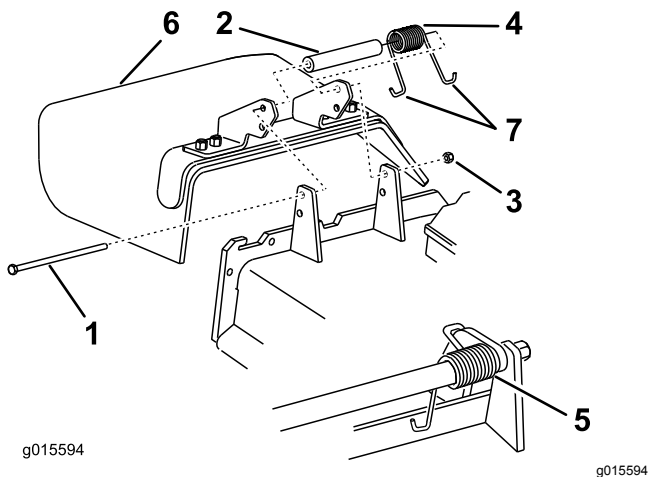

Figure 55
3. Remove the locknut, bolt, spring and spacer securing the deflector to the pivot brackets (Figure 55).
5. Place one J-hook end of the spring behind the deck edge (Figure 55).
Note: Ensure that one J-hook end of the spring is installed behind the deck edge before installing the bolt as shown in Figure 55.
7. Place one J-hook end of the spring around the grass deflector (Figure 55).